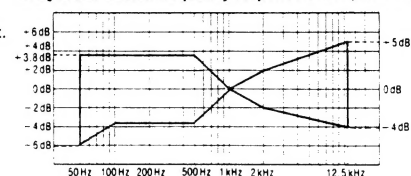

Fig. 9
8. Assume that the level is within the range shown in Fig. 9.